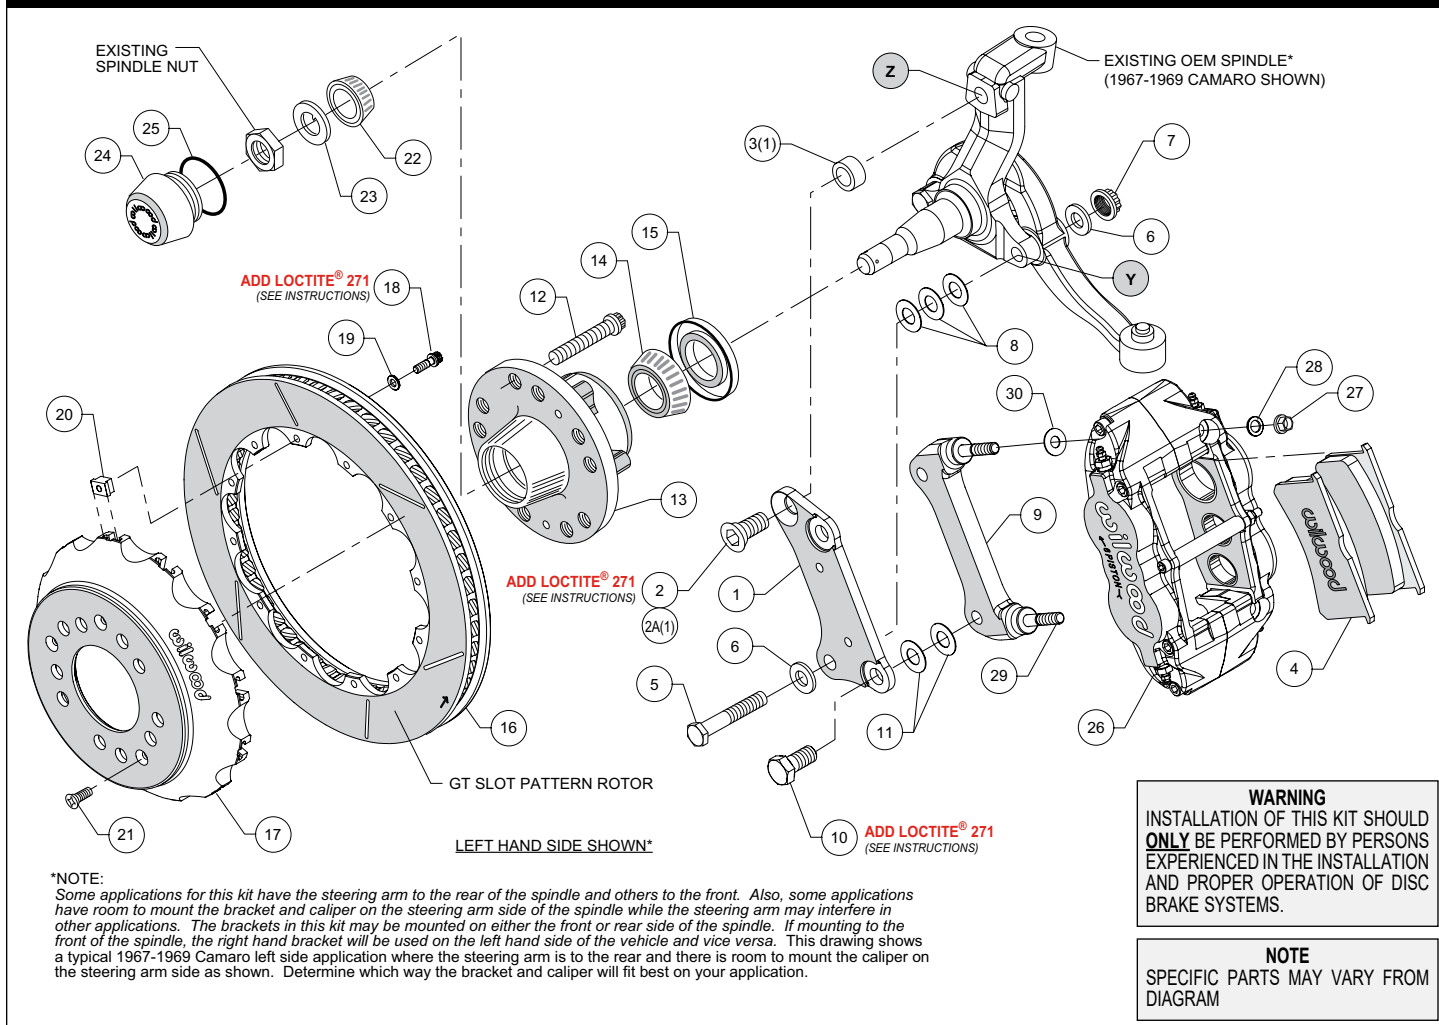
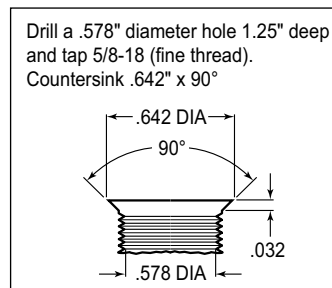
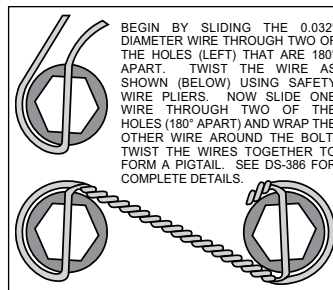

Figure 1. Typical Installation Configuration
Figure 3. Drill and Tap Detail
Figure 4. Safety Wire Diagram
Assembly Instructions (numbers in parenthesis refer to the parts list on the preceding page, and Figure 1):
•**NOTE:** Some applications for this kit have the steering arm to the rear of the spindle and others to the front. Also, some applications have room to mount the bracket and caliper on the steering arm side of the spindle while the steering arm may interfere in other applications. The brackets in this kit may be mounted on either the front or rear side of the spindle. If mounting to the front of the spindle, the right hand bracket will be used on the left hand side of the vehicle and vice versa. Figure 1 shows a typical 1967-1969 Camaro left side application where the steering arm is to the rear and there is room to mount the caliper on the steering arm side as shown. Determine which way the bracket and caliper will fit best on your application.
•**NOTE:** Some spindles in this year range may require the following modifications (reference Figure 1 and Figure 3): Top anchor pin hole (Z) must be drilled and tapped to the dimensions as outlined in Figure 3. The lower bolt hole (Y) in the spindle used to mount the new caliper bracket, and the mating steering arm hole, must be enlarged to .50" by drilling. It is recommended these modifications be performed by a qualified machinist.
•Install wheel studs (12) into the hub (13), Photo 1. Torque to 77 ft-lb. **NOTE:** There are two five lug patterns in the hub (5 x 4.50 and 5 x 4.75). Ensure the correct hub stud pattern is being used to fit the wheel application.
•Pack the large inner bearing cone (14) with high temperature disc brake bearing grease (available from your local auto parts store) and install into the backside of the hub (13).
•Install the grease seal (15) by pressing into the backside of the hub (13), Photo 2.
•Orient the rotor (16) and the hat (17) as shown in Figure 1 and Photo 3. Attach rotor to hat using bolts (18), washers (19), and t-nuts (20). Follow additional instructions included with the bolt kit. Apply red *Loctite*® 271 to the bolt threads and torque to 120 **in-lb** using a criss-cross pattern. Safety wire bolts using standard 0.032 inch diameter stainless steel safety wire as shown in Figure 4. Please refer to Wilwood's data sheet DS-386 (available at www.wilwood.com/Pdf/DataSheets/ds386.pdf) for complete safety wire installation instructions.
•**Disc Brake Spindle Application Only:** Follow the instructions below, but instead use bolt (2A), and spacer (3) in the upper bolt hole location, Figure 1.
•Orient the flat bracket (1) as shown in Figure 1 and Photo 4, and install using bottom bolt (5), washers (6), and nut (7), Figure 1. Initially place three .032" thick shims (8) between the bracket and spindle. Install the upper bolt (2 or 2A). Temporarily tighten bolts. **NOTE:** *The bracket must fit squarely against the mounting surfaces on the spindle.* Inspect for interference from casting irregularities, machining ridges, burrs, etc. Temporarily install the new hub, hat and rotor assembly. Check that the bracket is aligned parallel to the rotor, Photo 5. If not, adjust by adding or subtracting shims (8) on the lower bolt between the bracket and spindle, Figure 1. Once the bracket alignment is correct, remove the upper bolt (2 or 2A), apply red *Loctite*[®] 271 to the bolt threads, and torque to 140 ft-lb. Torque the lower lock nut to 65 ft-lb.
•The radial mount caliper bracket (9) should initially be installed with clean, dry threads on the mounting bolts. Orient the bracket as shown in Figure 1 and Photo 6, and install using bolts (10). Initially place two .029 thick shims (11) on each bolt between the two brackets, Figure 1. Temporarily tighten the mounting bolts. Later, after the caliper alignment has been checked, the mount bolts will be secured using red *Loctite*[®] 271.
•Pack the small outer bearing cone (22) with high temperature disc brake bearing grease and install into hub (13). Final install the hub assembly onto the spindle. Secure using spindle washer (23) and OEM spindle nut, Photo 7. Adjust bearings per OEM specifications. Install saved OEM nut lock (if any) and a new cotter pin (not included).
•Screw dust cap (24) into hub (13). Friction created by the o-ring (25) on the dust cap keeps it from unscrewing. **NOTE:** *The O.D. of the existing OEM spindle washer may be larger than the I.D. of the dust cap not allowing it to seat against the hub face. Therefore, use the spindle washer (23) supplied with the kit instead of the OEM washer.*
•Final install the rotor (16 and 17) assembly onto the hub (13), taking care to align the small countersunk holes in the hat with the small threaded holes in the hub. **NOTE:** *The hat must fit flush against the hub face or excessive rotor run out may result.* Install three flat head screws (21) through the small holes in the hat (17), Photo 8, and torque to 85 in-lb.
•**NOTE:** *This kit contains distinct right and left hand calipers that must be mounted in a specific direction, as described below.* Initially place one .035" thick shim (30) on each stud (29) between the caliper and the bracket, as shown in Figure 1 and Photo 9. Mount the caliper (26) onto the bracket (9) using lock nuts (27) and washers (28), Figure 1. Ensure that the caliper is mounted so the largest pistons are at the rotor exit end of the caliper, in relation to the direction of rotor rotation. Temporarily tighten the lock nuts. The rotor should be centered in the caliper, Photo 10. If not, adjust by adding or subtracting shims (11) between the flat bracket (1) and the caliper bracket (9). Always use the same amount of shims on each of the two mounting bolts. Once the caliper alignment is correct, remove the bracket mounting bolts one at a time, apply red *Loctite*[®] 271 to the threads, and torque to 77 ft-lb.